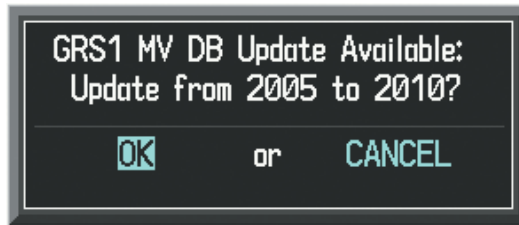
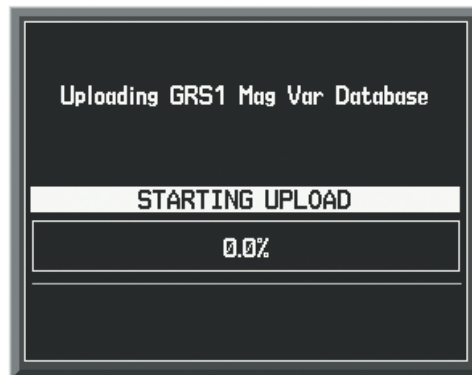

Figure B-12 GRS1 Magnetic Field Variation Database Update Prompt
Figure B-13 Uploading Database to GRS1
A copy of the current magnetic field variation database (MV DB) is included with the navigation database. At startup, the system compares this version of the MV DB with that presently being used by each AHRS (GRS1 and GRS2). If the system determines the MV DB needs to be updated, a prompt is displayed on the Navigation Map Page, as shown in Figure B-12. Note, in the following example, GRS1 is the first AHRS to indicate an update is available. In actuality, this is dependent on which AHRS is the first to report status to the system. GRS2 may be displayed before GRS1. The order is not important, only that both AHRS be updated.
- 1) With 'OK' highlighted, as seen in Figure B-12, press the **ENT** Key on the MFD. A progress monitor is displayed as shown in Figure B-13. When the upload is complete, the system is ready for use.